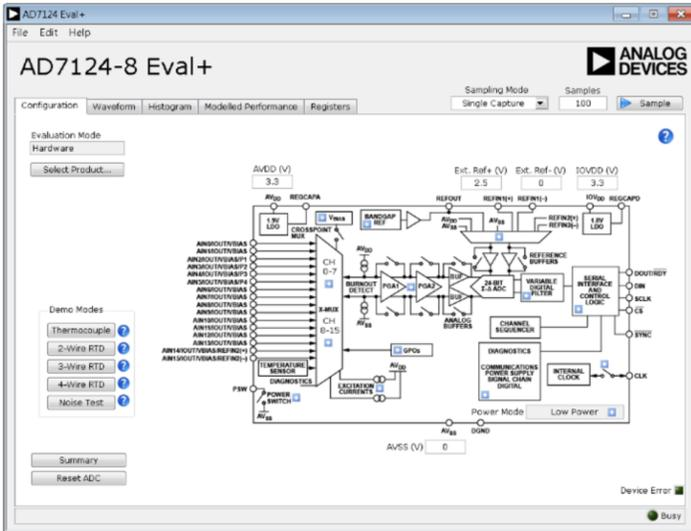

Figure 33. AD7124_Eval+ Software Window
8. After selecting the evaluation board, the window shown in Figure 33 appears. To configure the AD7124-4/AD7124-8 for 2-wire, 3-wire, or 4-wire RTD measurements, click the **2-WIRE RTD**, **3-WIRE RTD**, or **4-WIRE RTD Demo Modes** button (see Figure 33).